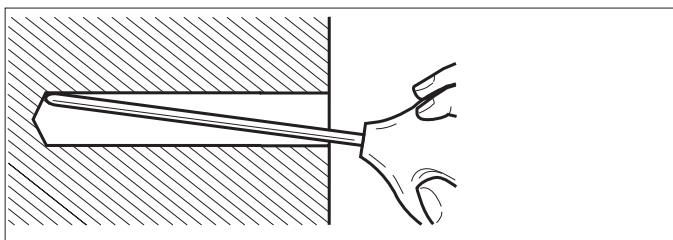

Fig. 3
- ⇒ Remove drilling debris from auxiliary holes with bellows (Fig. 3).